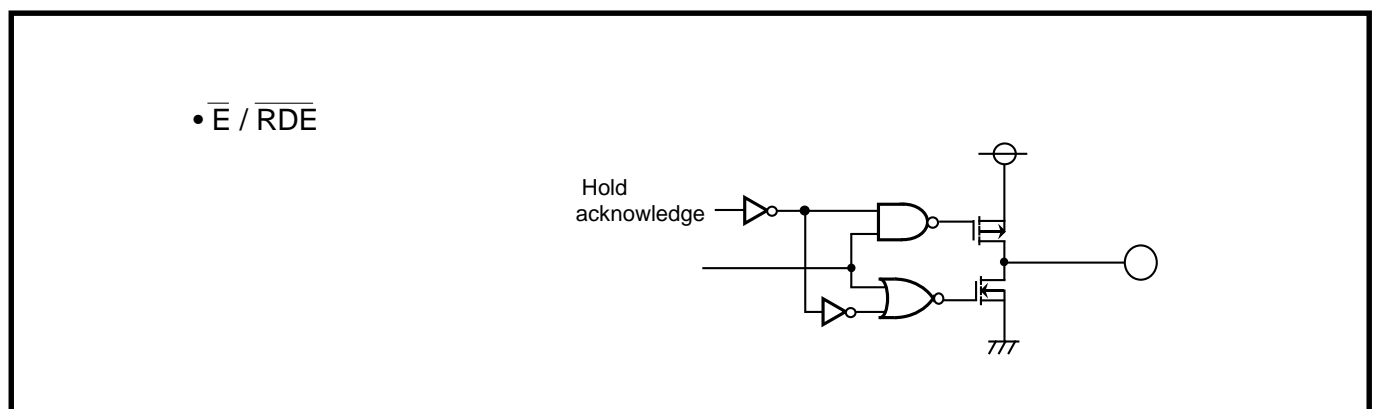

Fig. 3.2.2 Port peripheral circuits (2)
- Pin $\overline{E}/\overline{RDE}$ in Figure 3.2.2